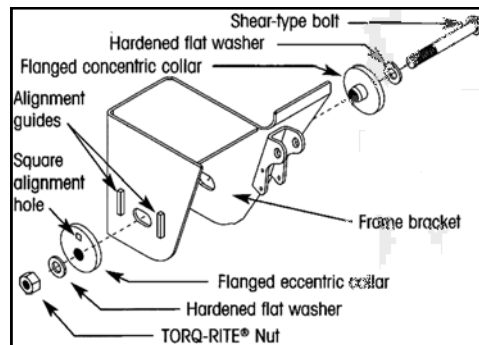

Figure 23. Pivot Connection Assembly
11. Using an E20 Torx socket, tighten the shear-type bolt axle pivot connection until the Torx head shears off. This ensures the proper torque of 550 ft. lbs. (± 45 ft. lbs.). Pivot bolts must be replaced when trailer is aligned. **DO NOT** attempt to reuse old pivot bolts. Assembly of pivot connection shown in figure 23.